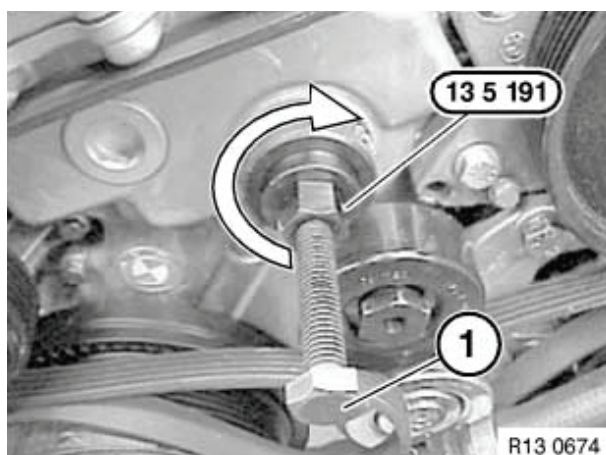

Figure 6-24
12. Thread special tool OEM No. 13 5 191 without jack screw (**Figure 6-24, (1)**) into sprocket by hand until firmly seated.
13. Thread jack screw (**Figure 6-24, (1)**) into special tool until firmly in contact with end of pump shaft.